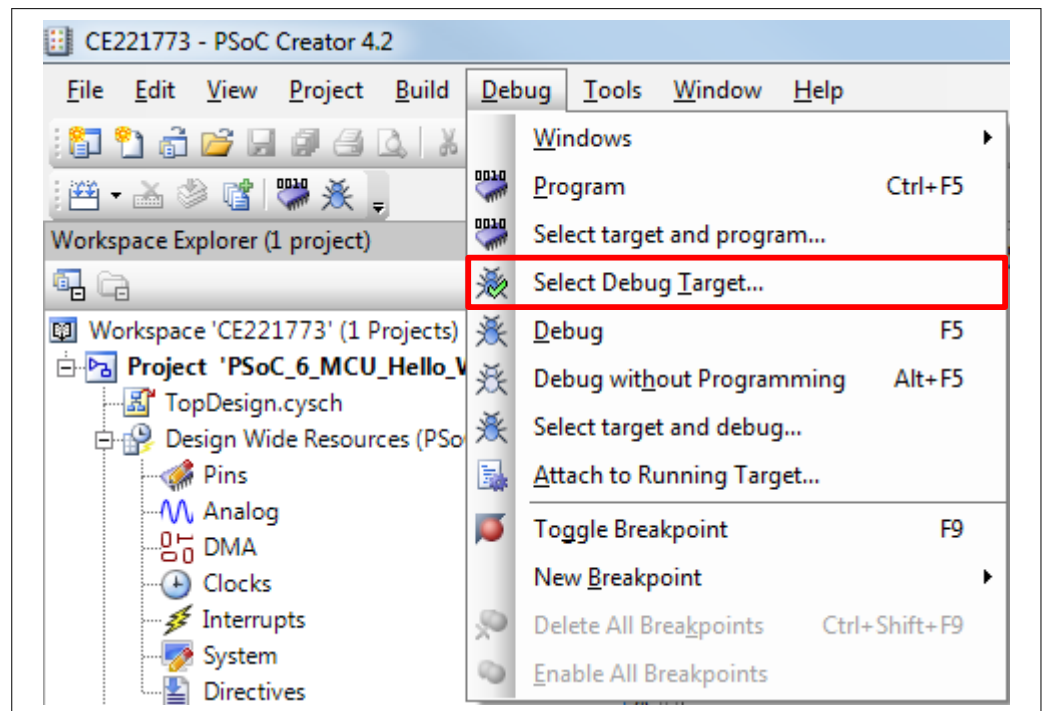

Figure 27 Selecting Debug Target
- a. In PSoC™ Creator, choose **Debug > Select Debug Target**, as Figure 27 shows